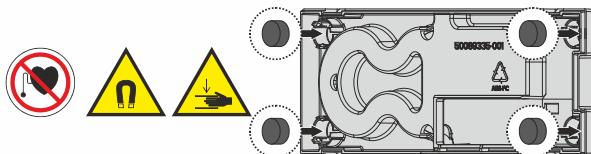

Fig. 4. Inserting magnets into cover
2. Insert the four magnets (incl. in delivery) (see Fig. 4).